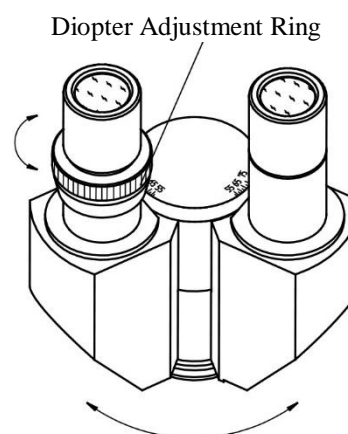

Figure 4
- 3.2. Proper interpupillary distance, or the distance between eyepieces, is crucial to the comfort of the user. Adjusting the interpupillary distance is accomplished through a "folding" action of the optical head, at Figure 4, allowing for quick and easy adjustment.